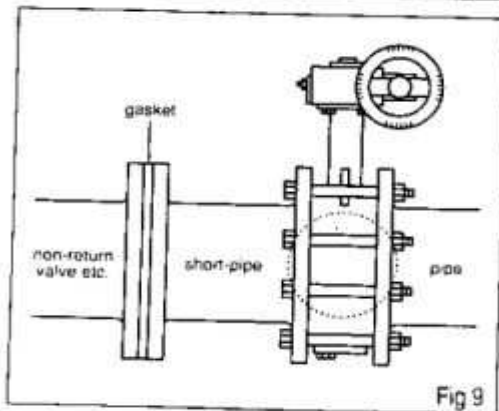

Fig 9
- **Installation the valve to a return valve, etc...** : When the valve to be installed directly to return valves, pumps, etc..., there may be cases in which disc touches to other upon its full opening. In this case, short-pipe to be fixed before installation of the valve. (Fig 9)